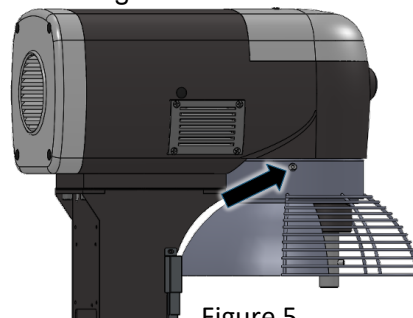

Figure 5
4. Remove the cap and mounting screw in the indicated position. See figure 5.